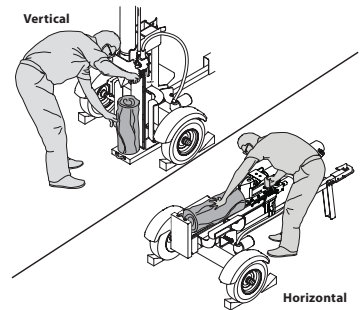

Figure 13
2. Block the front and back of both wheels. See Figure 13.
3. To stabilize the log, place your left hand on the side of the log opposite the beam as shown in Figure 13.